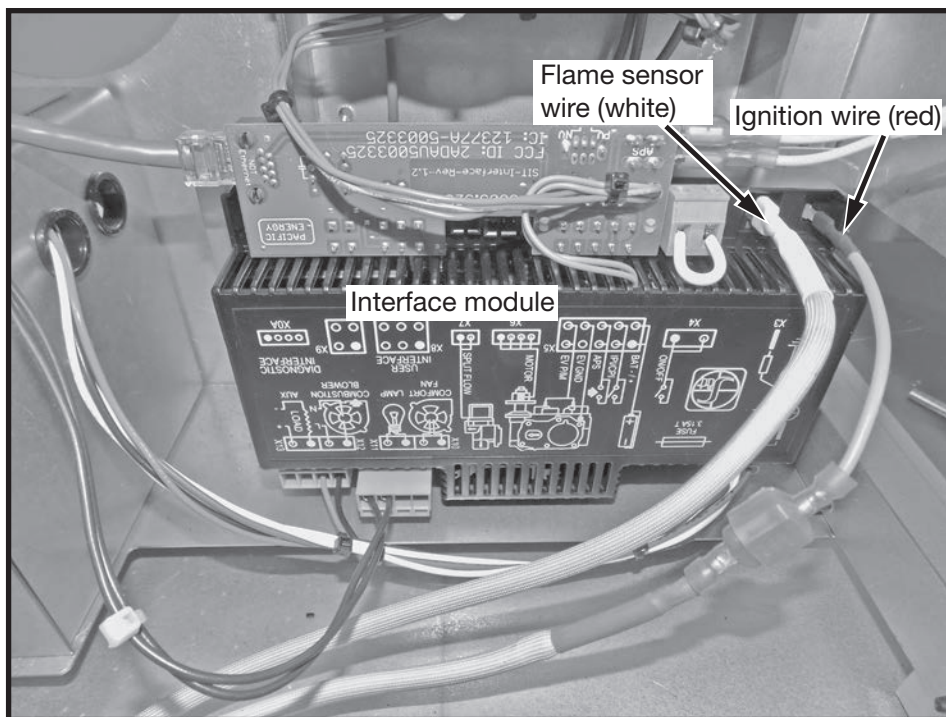

Figure 14: Interface module.
12. Attach the ignition and sensor wires to the interface module as indicated in Figure 14.